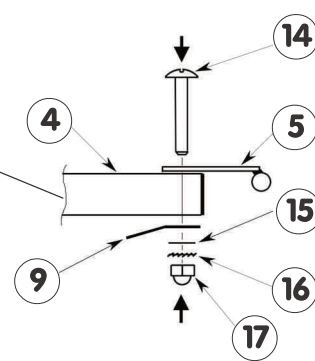

Figure 6
- 3 - Carefully position the hand-rail plate (5), and the clamping plates (9) in the direction shown by the details on Figure 6, before attaching the assembly using screws (14), (15), (16) and (17).